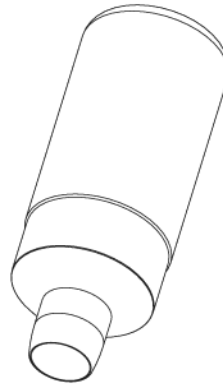

FIGURE 6: MUFFLER AND DUST COLLECTOR BAG
- ✓ Muffler Dust Collector (Figure 6)